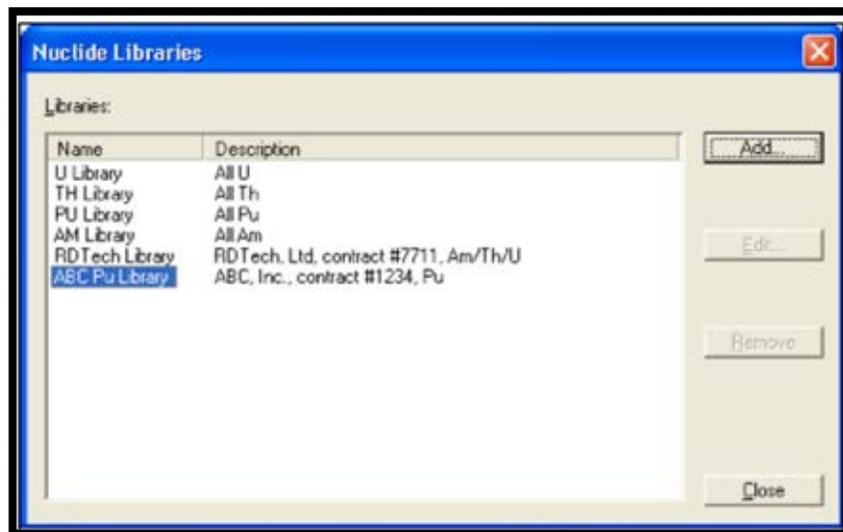

Figure 60. New Library Added
- 5) Click **OK** as needed to return to the Nuclide Libraries dialog (Figure 60).